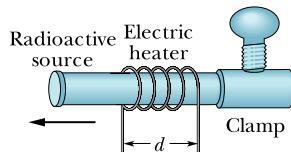

Figure 18.8 Problem 20.
**20 M GO** In a certain experiment, a small radioactive source must move at selected, extremely slow speeds. This motion is accomplished by fastening the source to one end of an aluminum rod and heating the central section of the rod in a controlled way. If the effective heated section of the rod in Fig. 18.8 has length  $d = 2.00 \text{ cm}$ , at what constant rate must the temperature of the rod be changed if the source is to move at a constant speed of  $100 \text{ nm/s}$ ?